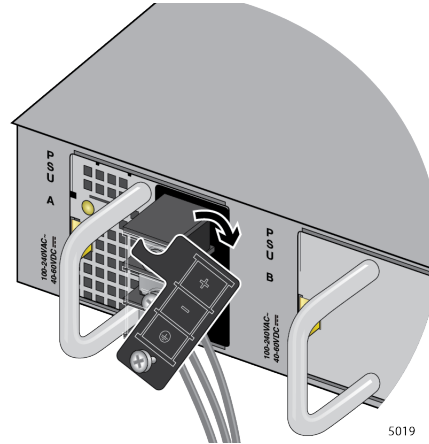

Figure 135. Accessing the Connecting Screws
4. Press the panel to the right to access the connecting screws as shown in Figure 135 on page 193.